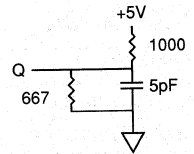

Fig. 2 OUTPUT LOAD EQUIVALENT
6. t¹HZCS, t¹HZOE, and t¹HZWE are specified with CL = 5pF as in Fig. 2. Transition is measured ±500mV from steady state voltage.